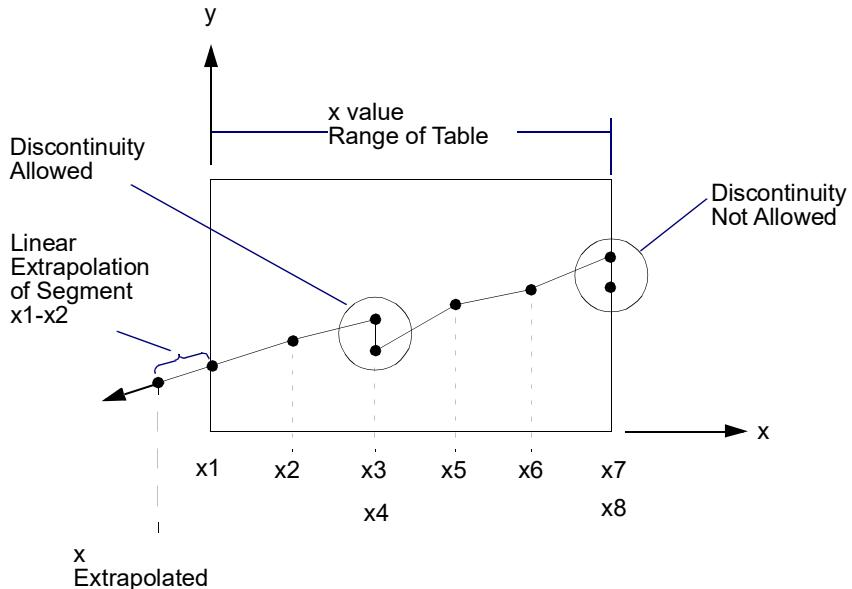

Figure 9-161 Example of Table Extrapolation and Discontinuity
2. Discontinuities may be specified between any two points except the two starting points or two end points. For example, in Figure 9-161 discontinuities are allowed only between points x2 and x7. Also if y is evaluated at a discontinuity, then the average value of y is used. In Figure 9-161, the value of y at x = x3 is $y = (y3 + y4)/2$.
where x is input to the table and y is returned. The table look-up is performed using linear interpolation within the table and linear extrapolation outside the table using the two starting or end points. See Figure 9-161. No warning messages are issued if table data is input incorrectly.